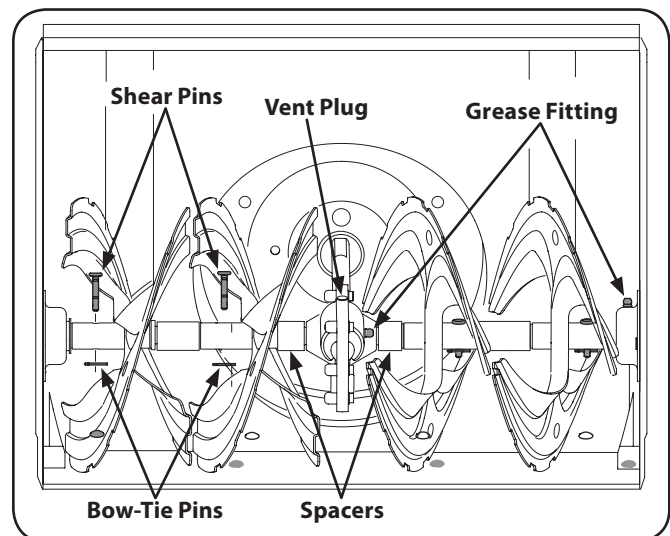

Figure 6-4
Grease fittings can also be found at each end of the auger shaft. Lubricate with a grease gun once a season. See Figure 6-4.
The auger gear case is equipped with a grease fitting. Lubricate with grease once a season (order part number 737-0168). See Figure 6-4.
NOTE: To relieve pressure, remove the vent plug before lubricating the gear case. See Figure 6-4. Failure to do so could result in damage to the gear case seals.
2. Replace the pins if needed. Two replacement shear pins and cotter pins have been provided with the snow thrower. Spray an oil lubricant into shaft before inserting new pins and securing with new cotter pins. See Figure 6-4.